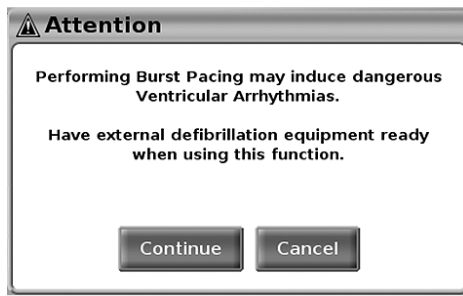

Figure 19. PSA Burst Pacing Warning message
4. A warning displays indicating burst pacing will be activated (Figure 19 on page 28).